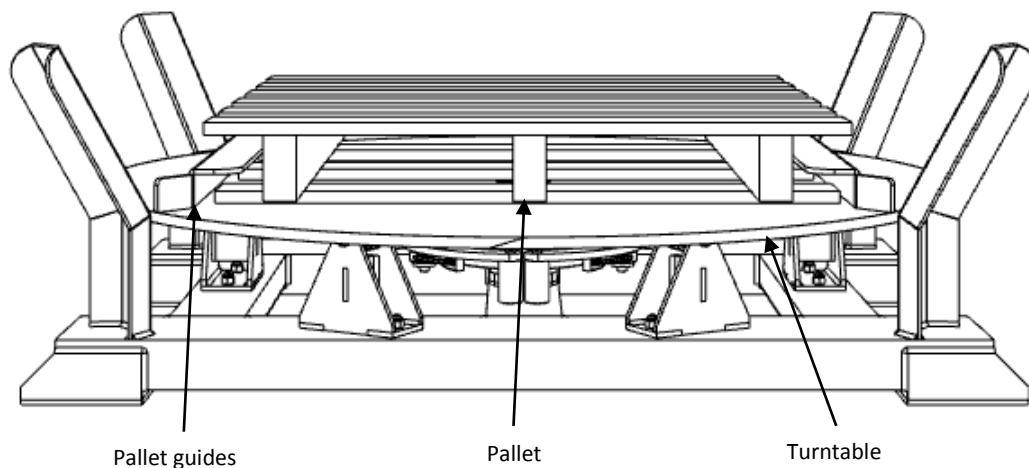

Figure 7: Pallet position on decoiler
3. Ensure that there is nothing lying on the turntable (see Figure 7) that can be thrown off when the decoiler spins.
Figure 7 shows the decoiler with the pallet loaded in the correct position.